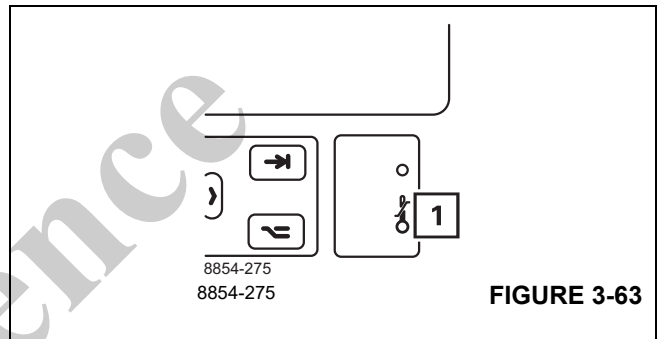

FIGURE 3-63
If the temperature on the display is too high, the brightness is reduced automatically – lamp (1), (Figure 3-63) lights up.
When the temperature falls, the specified brightness is restored – lamp (1), (Figure 3-63) goes out.